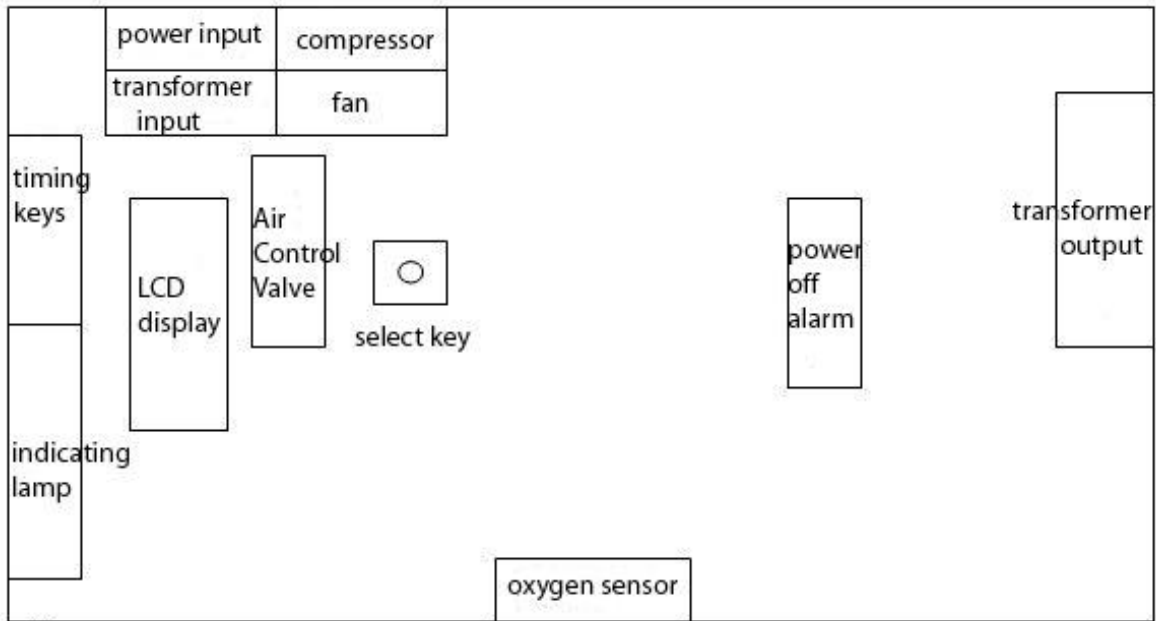

Figure 7
- **Block Diagram of Circuit Board** (please see Figure 7)